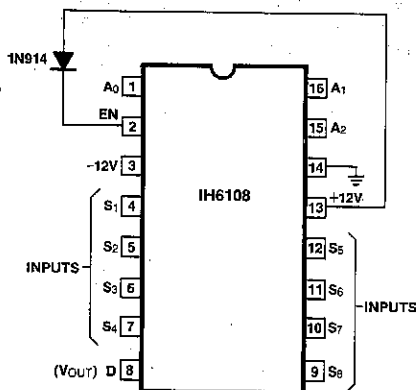

Figure 6. IH6108 Connection Diagram for less than $\pm 15V$ Supply Operation.
Caution must be taken to ensure that the enable (EN) voltage is at least 0.7V below V^+ at all times. If this is not done the Address input strobing levels will not function properly. This may be achieved quite simply by connecting EN (pin 2) to V^+ (pin 13) via a silicon diode as shown in Figure 6. When using this type of configuration, a further requirement must be met: the strobe levels at A0 and A1 must be within 2.5V of the EN
voltage in order to define a binary "1" state. For the case shown in Figure 6 the EN voltage is 11.3V which means that logic high at A0 and A1 is $+8.8V$ (logic low continues to be $+0.8V$). In this configuration the IH6108 cannot be driven by TTL ($+5V$) or CMOS ($+5V$) logic. It can be driven by TTL open collector logic or CMOS logic with $+12V$ supplies.